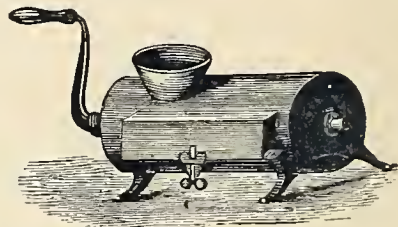

Fig. 466. — Meat-Cutter, No. 1. Fig. 467. — Meat-Cutter, No. 2.
*Meat-Cutters, Nos. 1 and 2*, represented by *Figs. 466 and 467* respectively, are the smallest sizes adapted to family use, cutting the meat in a manner equal to the larger machines, but not as rapidly.